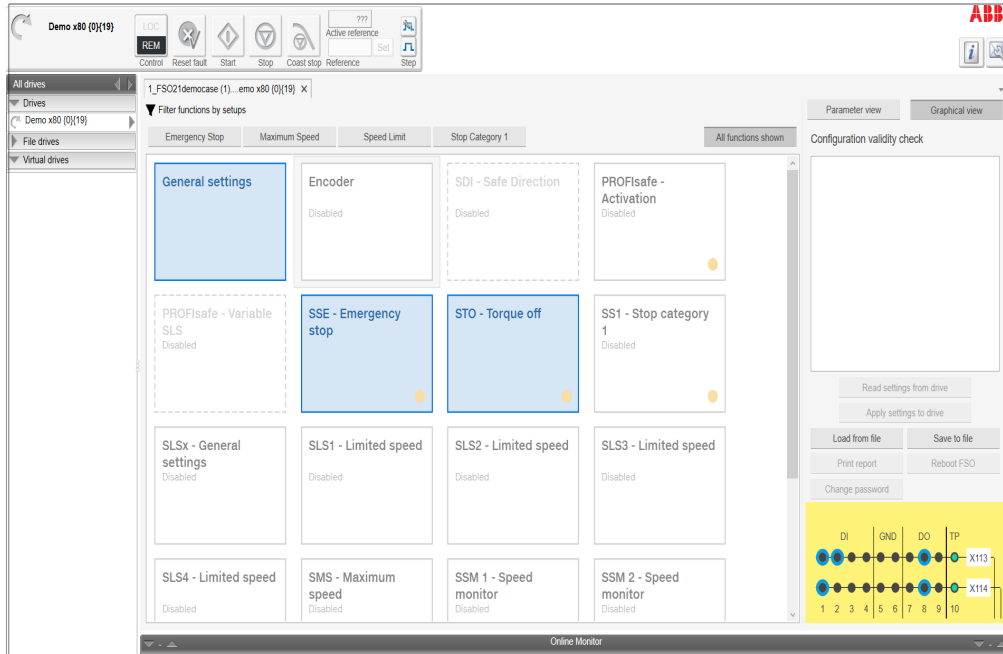
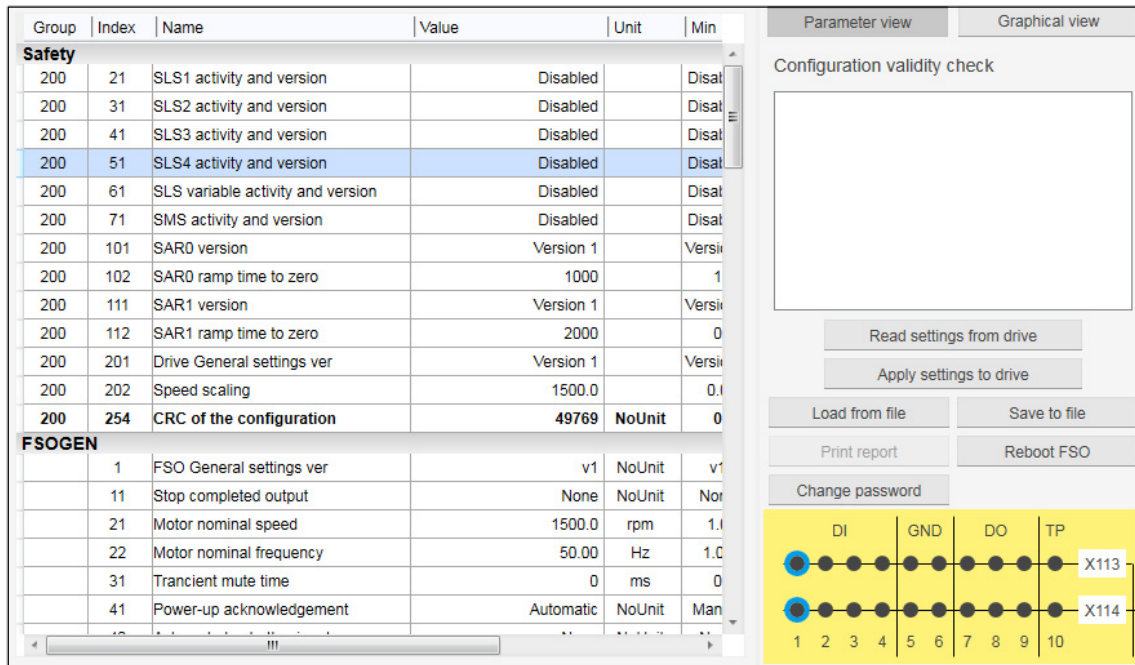

Figure 146. FSO configuration: Graphical view
Figure 147. FSO configuration: Parameter view
You can switch between **Graphical view** and **Parameter view**. See Figure 146.FSO configuration: Graphical view and Figure 147.FSO configuration: Parameter view.
- Graphical view cannot be used for setting safe IO, cascade function or for SBC function (see Figure 146.FSO configuration: Graphical view). Instead use the Parameter view (see Figure 147.FSO configuration: Parameter view).